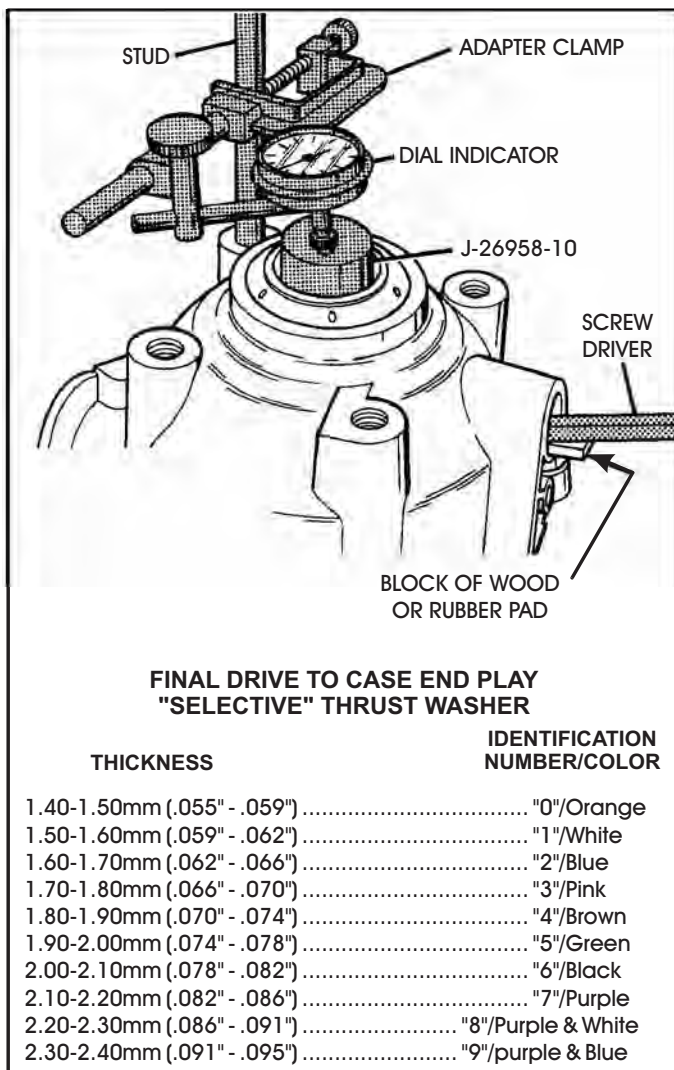

Figure 169
10. Rotate transaxle so the extension is facing up, as shown in Figure 169.
11. Install adapter J-26958-10 through axle seal and into final drive carrier (See Figure 169).
12. Install dial indicator with stem contacting the adapter, as shown in Figure 169, and zero the dial indicator.
13. Using the large screwdriver with a small block of wood, as shown in Figure 169, measure the final drive end play.
14. Change selective thrust washer as necessary using the chart in Figure 169, to obtain proper final drive end play.